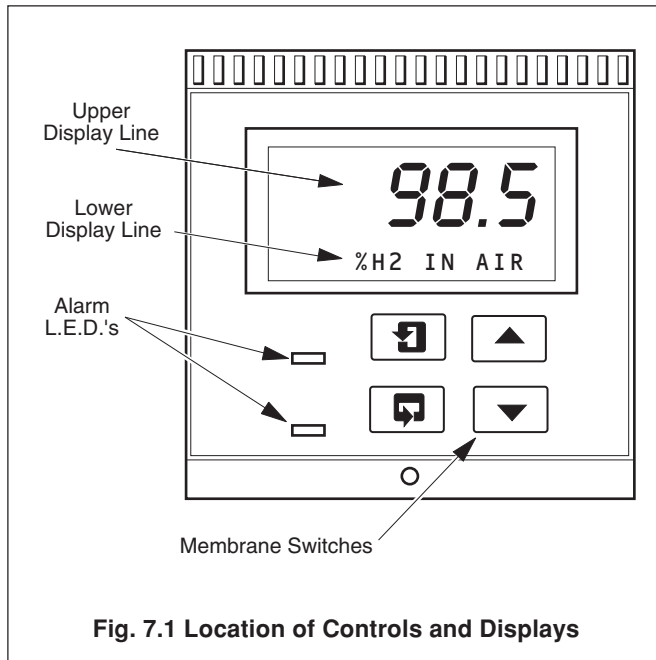

Fig. 7.1 Location of Controls and Displays
7.1 Displays – Fig. 7.1.
7.2 Switch Familiarization Fig. 7.1 and 7.2